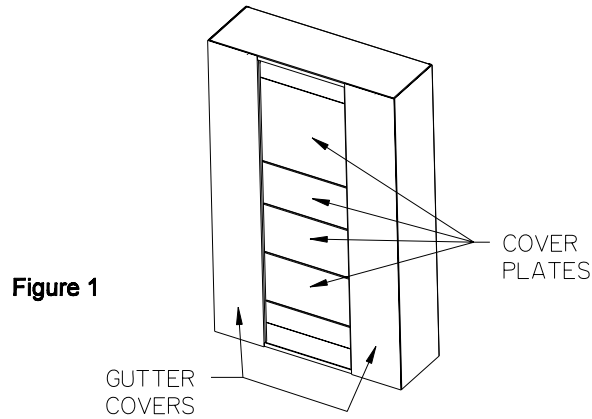

Figure 1
2. Reference fig. 1 - Remove the (2) gutter covers and cover plates.